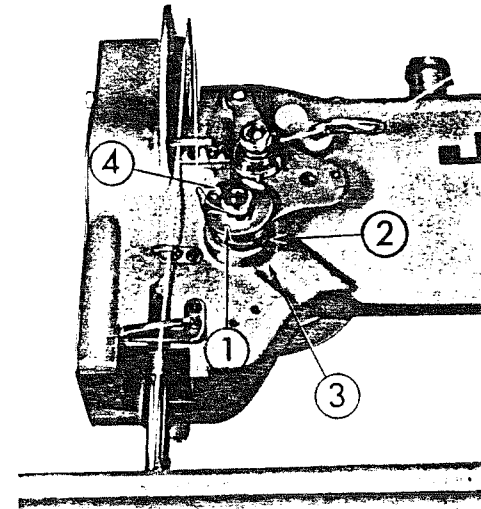

Fig. 17
1. Adjusting the Tension Device (Fig. 17)
To regulate the movement of the thread take-up spring, loosen the screw ② (Fig. 17) and move the thread take-up spring adjusting plate ① (Fig. 17). To lengthen the movement, turn it to right and to shorten it, turn it to left. After adjusting, be sure to tighten the screw.
To strengthen the tension of the thread take-up spring, loosen the thread controller stud set screw ③ (Fig. 17), inserted in the arm under the thread controller disc, insert a screw driver to the tip of the groove of the thread tension post (Fig. 17 ④) and turn slowly to the left. To